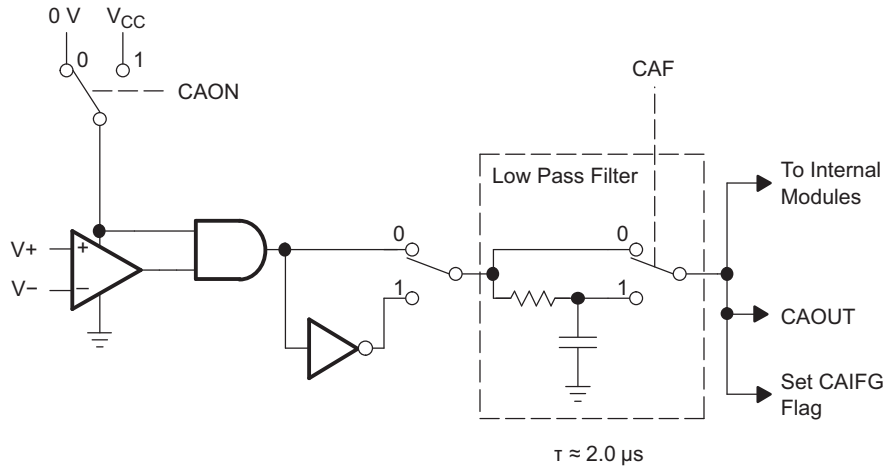

Figure 16. Block Diagram of Comparator\_A+ Module
| t (response)            | Response time(low-high and high-low)  | T A = 25°C, Overdrive 10 mV,Without filter: CAF = 0 (3)(see <a href="#">Figure 16</a> and <a href="#">Figure 17</a> ) | 2.2 V | 80   | 165                 | 300  | ns |
|                                    |   | T A = 25°C, Overdrive 10 mV,With filter: CAF = 1 (3)(see <a href="#">Figure 16</a> and <a href="#">Figure 17</a> )    | 2.2 V | 1.4  | 1.9                 | 2.8  | μs |